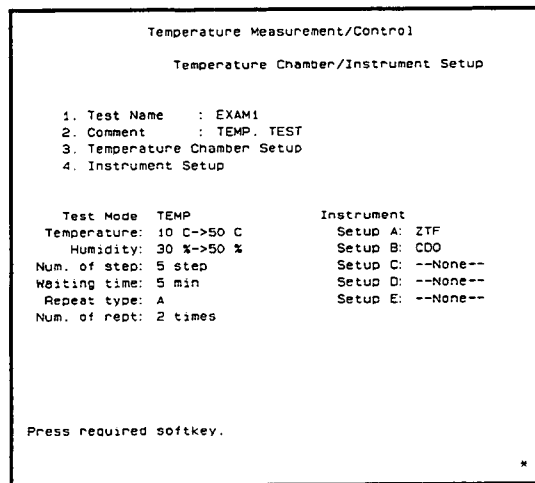

Figure 1-13.
4. Verify that the menu is as shown in Figure 1-13.